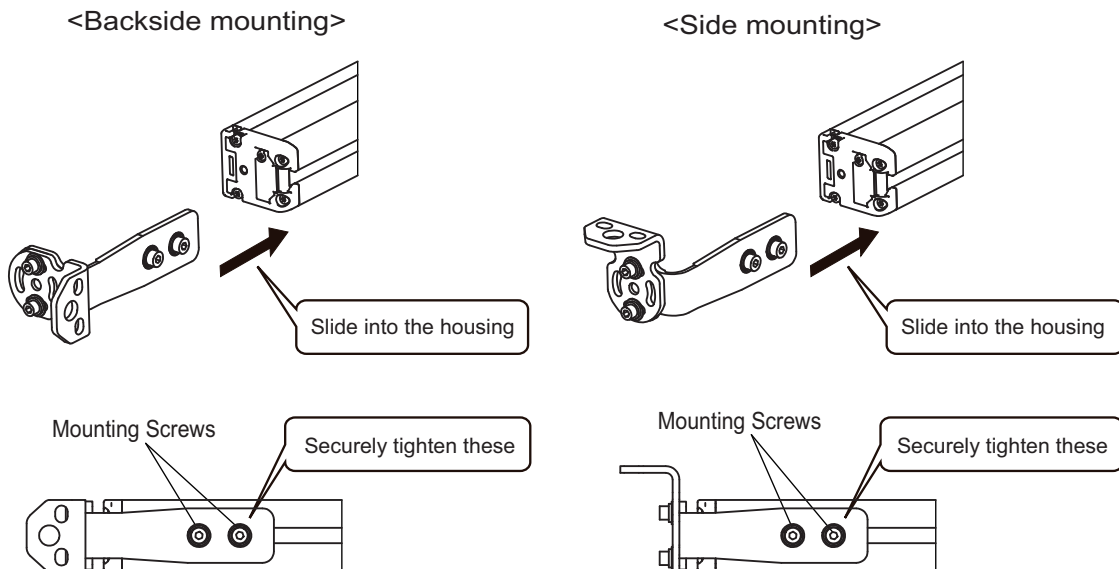

Fig. 2
2. Slide the Top/Bottom Bracket (1) in the grooves of the F3SG-RR housing. Adjust the Top/Bottom Bracket to the mounting position of the wall surface. Make sure to position the whole body of the Top/Bottom Bracket (1) within the yellow area of the housing. Securely tighten the Mounting Screws to fix the Top/Bottom Bracket to the housing of the F3SG-RR. The recommended torque to tighten the Mounting Screws is 3.0 N·m. (Fig. 2)